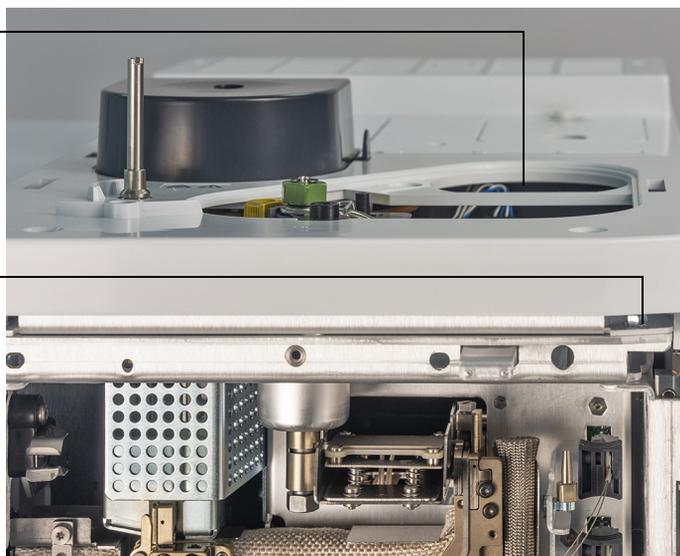

Figure 13. GC inlet cover and compression bolt access plate
- 6 Remove the inlet cover. (See **Figure 13.**)